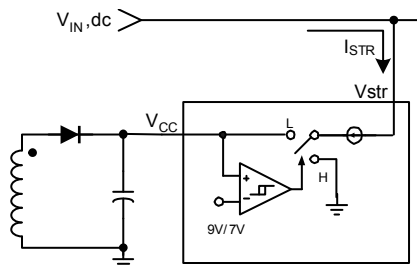

Figure 14. Internal Startup Circuit
1. Startup: At startup, the internal high-voltage current source supplies the internal bias and charges the external V_{CC} capacitor, as shown in Figure 14. When V_{CC} reaches 9V, the device starts switching and the internal high-voltage current source stops charging the capacitor. The device is in normal operation provided V_{CC} does not drop below 7V. After startup, the bias is supplied from the auxiliary transformer winding.